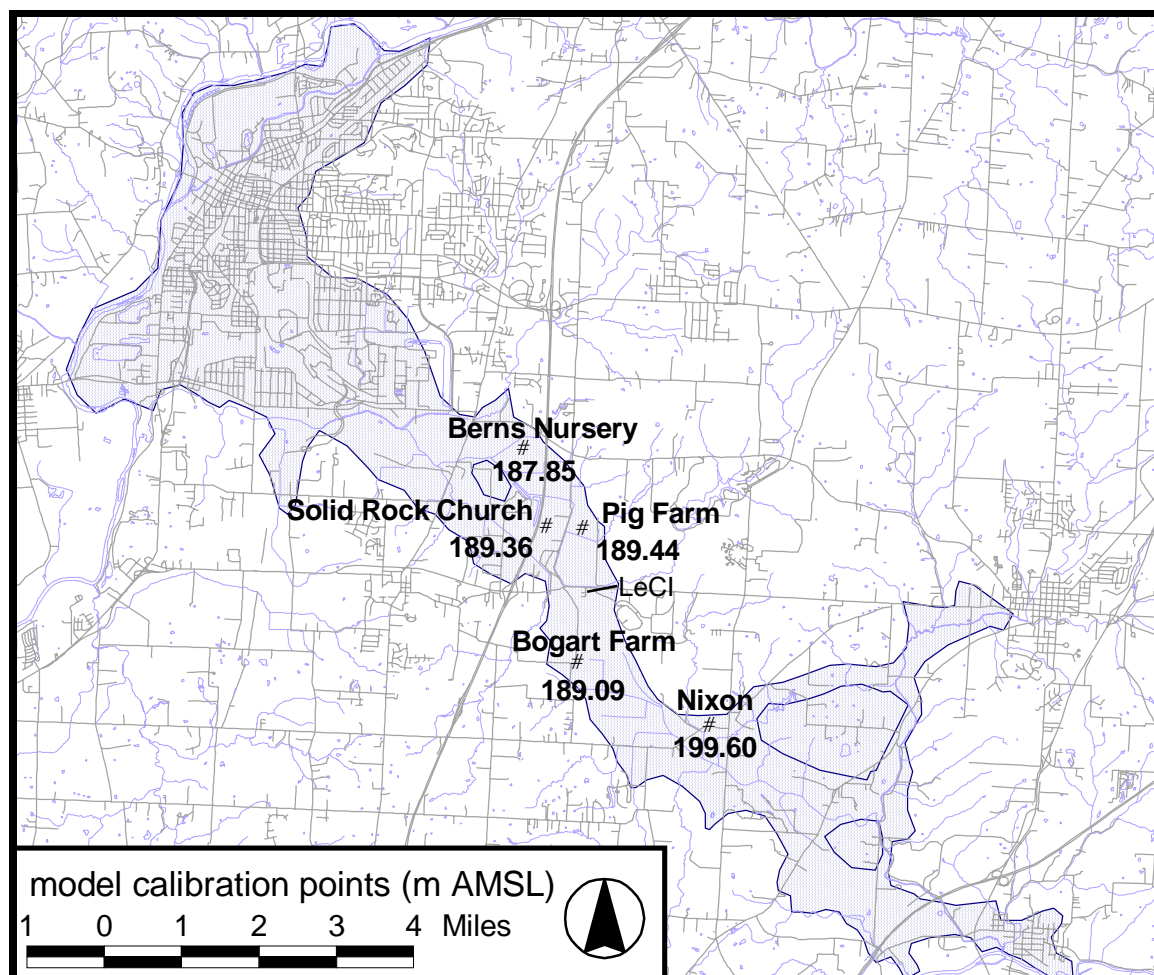
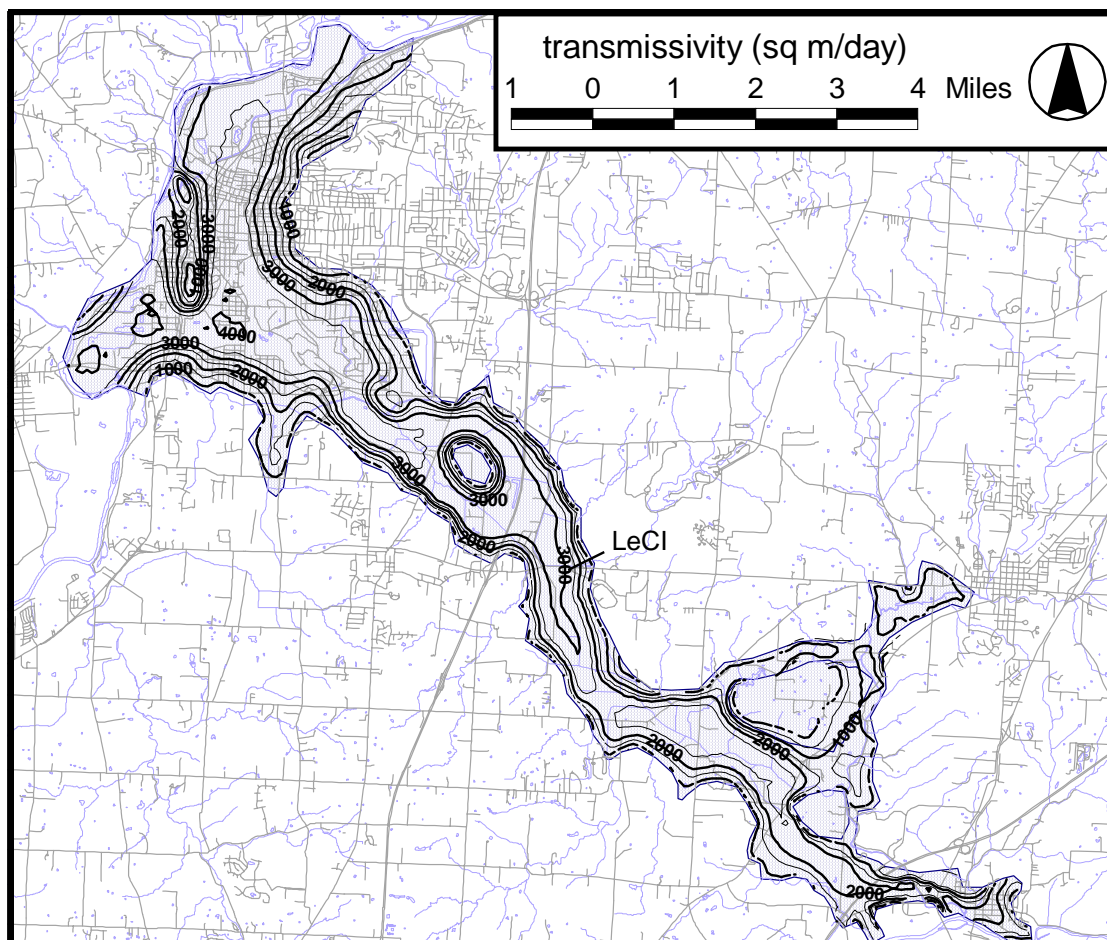

Figure 12. Piezometric elevations in the lower aquifer of the Shaker Creek Aquifer system measured between 9:30 and 14:30 May 9, 1998 (see Table 2).
Figure 21. Model-calibrated transmissivity using a hydraulic conductivity of 47 m/day.
An extensive search was made to find unused or rarely used wells screened in the lower aquifer that could be used to establish the piezometric surface and serve as calibration points for the hydrologic flow model. After the wells were located and access permission obtained, the measuring point (MP) elevation for each well was determined by surveying. The depth to water was measured periodically. On Saturday, May 9, 1998 all of the observation wells were measured between 09:30 and 14:30 (Table 2 and Fig. 12).
The model input values for recharge and hydraulic conductivity were varied within the calibration limits to fit the calibration targets (Fig. 12). Values of 6% and 20% of annual precipitation and stream discharge respectively and hydraulic conductivity of 47 m/day (Fig. 21) were found to provide the closest fit the calibration targets.